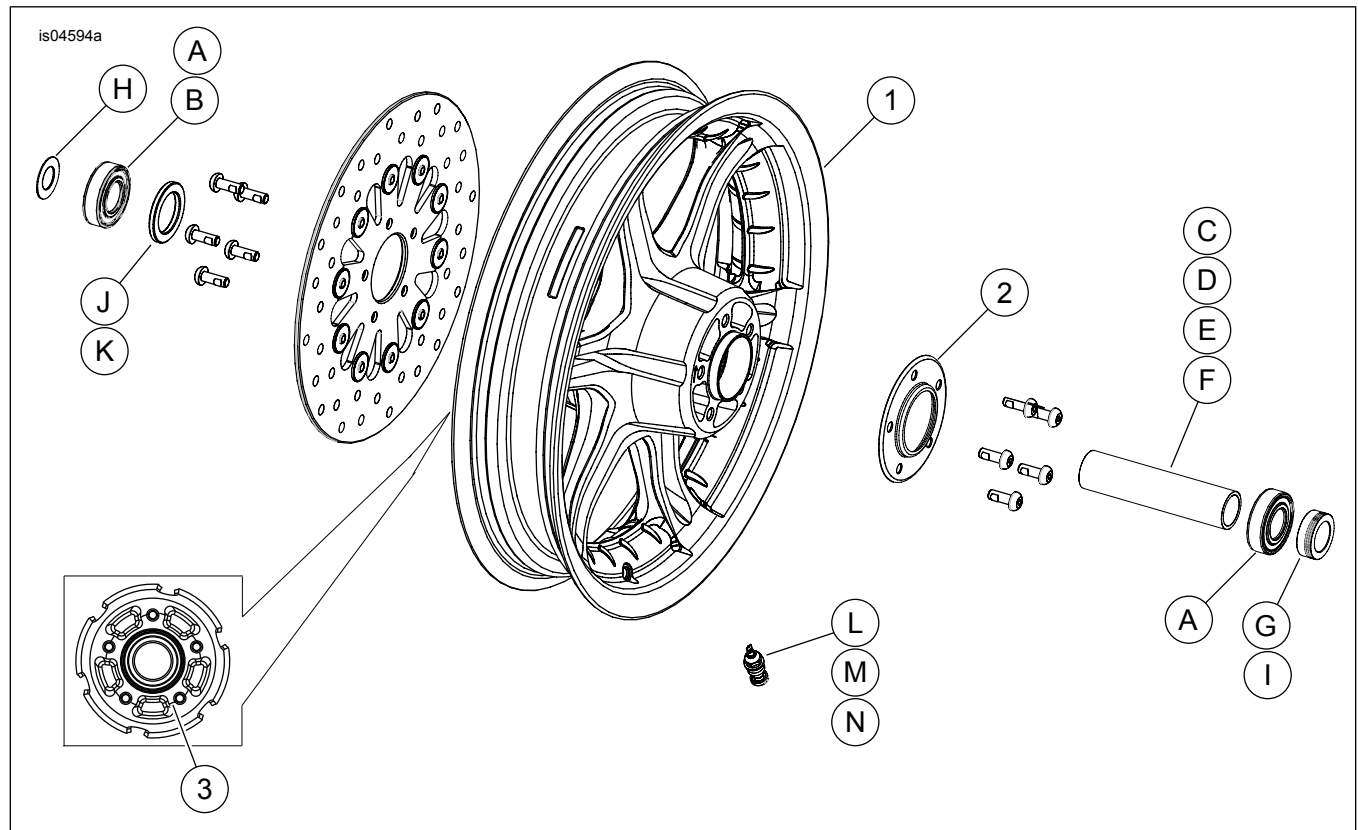

Figure 2. Service Parts: Front Slotted Six-Spoke Wheel (16-inch wheel shown)
These kits include the custom wheel, and depending on the kit, may also include a hub cap. See Figure 2. and Table 3 for kit contents.
- See Figure 2. Install valve stem assembly (L, M or N) on wheel. Refer to TIRES in service manual.